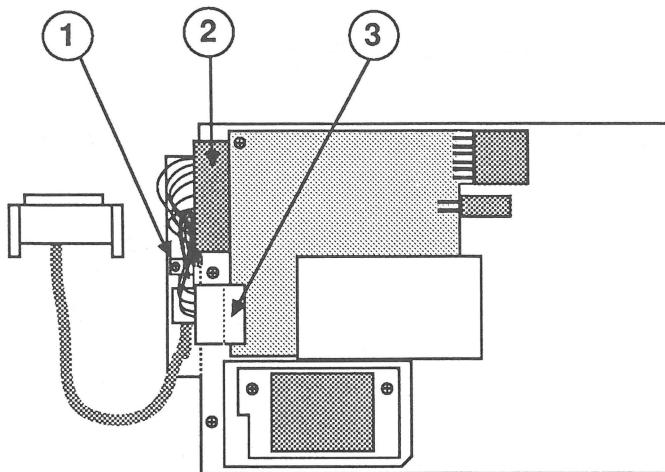

FIGURE 5
4. Remove the Phillips screw (Figure 5, #1) that secures the cable ground strap to the shield case.
5. Disconnect the cable bus connector from J1 (Figure 5, #2) and the cable power connector from J2 (Figure 5, #3).
1. Connect the cable bus connector to J1 (Figure 5, #2) and the cable power connector to J2 (Figure 5, #3).